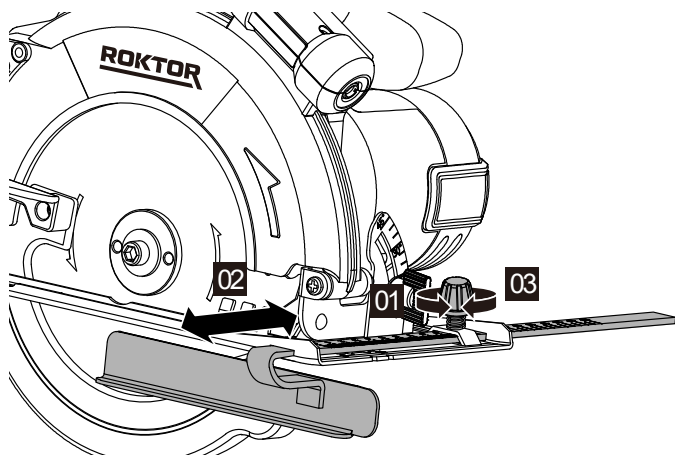

Figure 6
3. PARALLEL GUIDE FITTING (SEE FIG. 6)